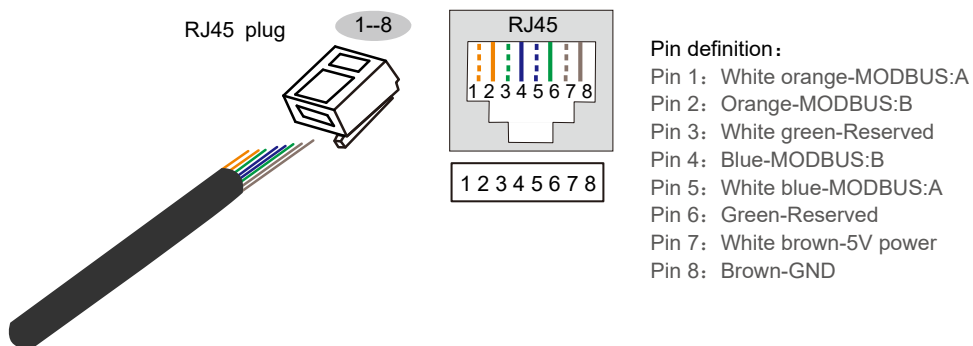

Figure2-14 Pin definition of the MODBUS port
1. The MODBUS port is used for MODBUS communication, which is to communicate with upper computer. The MODBUS port adopts RJ45 plug. The pin definition of the MODBUS port is shown in Figure2-14